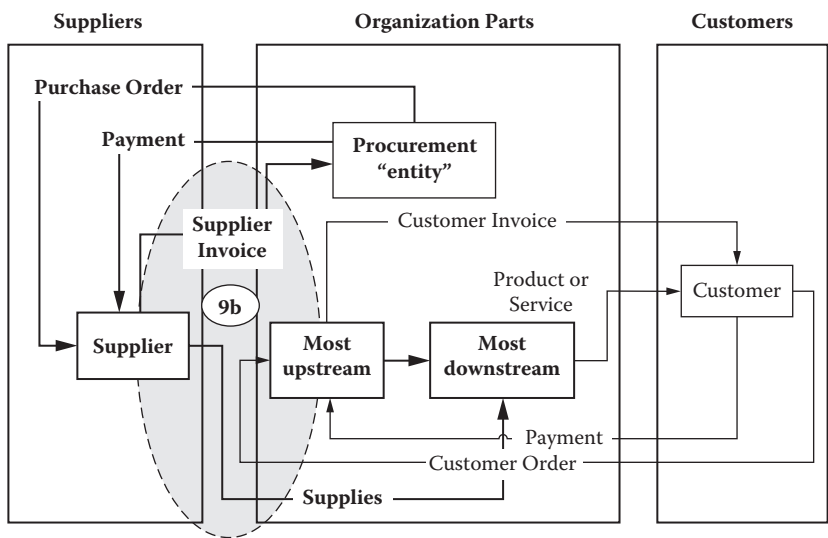

Figure 4.15 External supplier touch points highlighted in typical Order to Delivery sequence.
- External supplier (Figure 4.15)